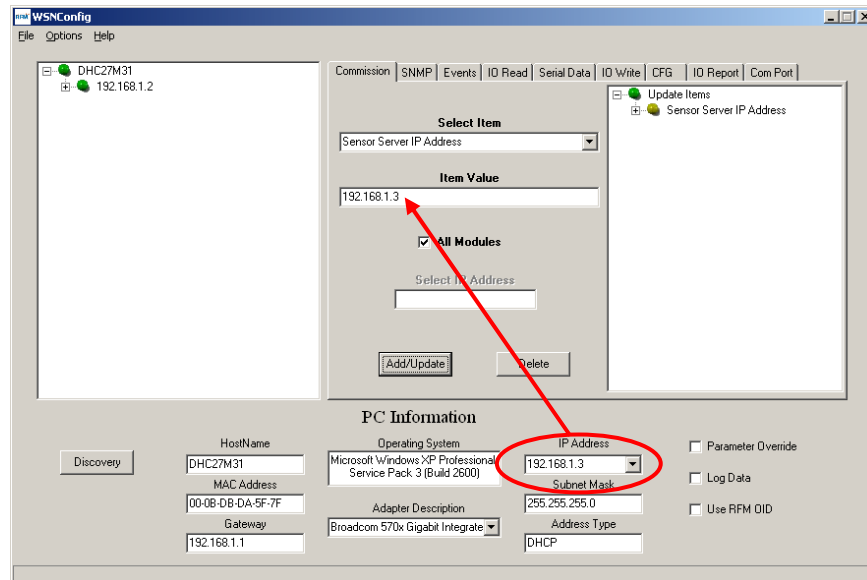
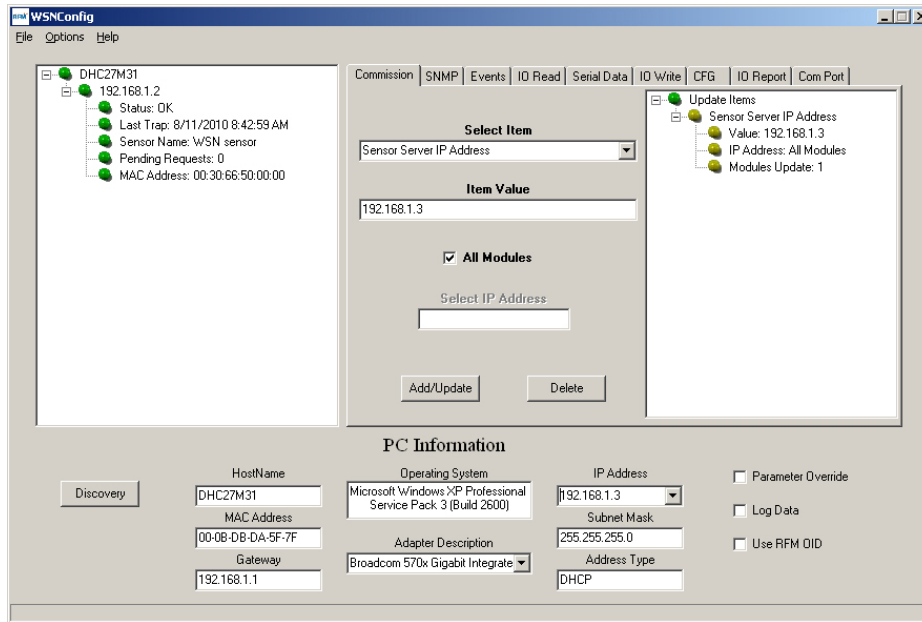

Figure 8.3.4
Figure 8.6.14
7. Select *Sensor Server IP Address* from the *Select Item* drop-down box on the WSNConfig.exe *Commission* tab. Enter the IP Address from the *PC Information* area in the *Item Value* text box. Then click the *Add/Update* button. See Figure 8.3.4. This action configures the WSN802G module to send its periodic I/O\_READ data to the PC running WSNConfig.exe.
Figure 8.6.14 shows the same *WSNConfig* main screen as Figure 8.3.4, but with the module IP address tree expanded on the left and the Sensor Sever IP Address tree expanded on the right.